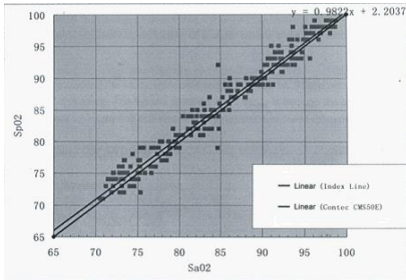
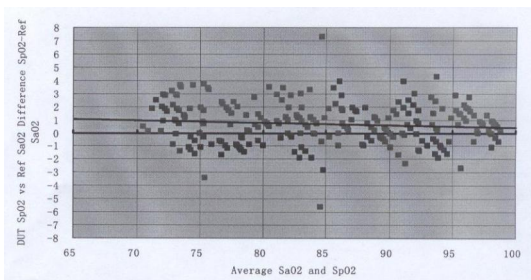

Figure 2 SpO2 regression plot
Figure 3 Bland-Altman plot
- 5) **Measurement Accuracy:** ±2% in stage of 70%-100% SpO2, and meaningless when stage being smaller than 70%. ±2 bpm or±2% (select larger) for Pulse Rate. Clinical Trial :SpO2 regression plot & Bland–Altman plot,Refer to Figure 2 & Figure 3.